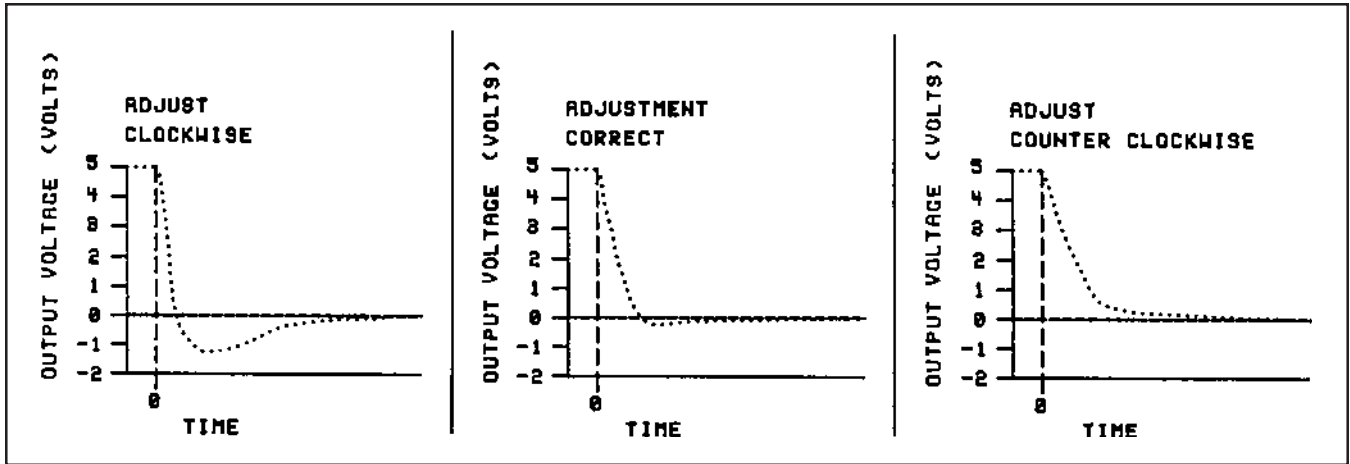

Figure 3-7 Fast Response Adjustment
- c. The behavior of the flow signal during this transition between 100% and 0% flow indicates the adjustment required of the anticipate potentiometer. Refer to Figure 3-7.